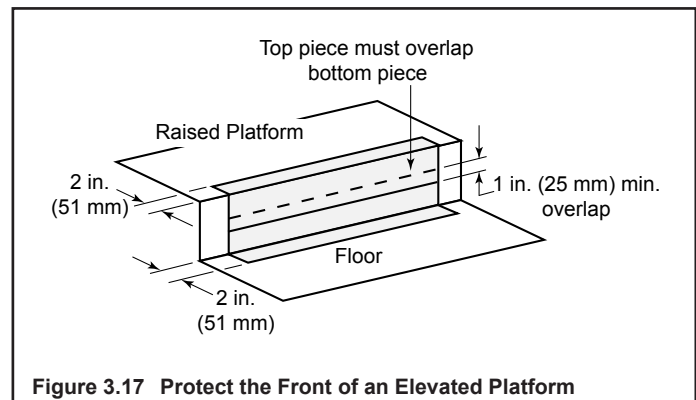

Figure 3.17 Protect the Front of an Elevated Platform
- Protect the front of a platform elevated above the hearth extension with metal strips (not included with fireplace) per Figure 3.17. See Section 7 for hearth extension instructions.